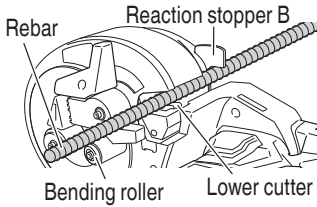

Fig. 35
- (2) Set the rebar to be cut above the lower cutter (Fig. 35) Make sure that there is enough length for the rebar to fully hook reaction stopper B.